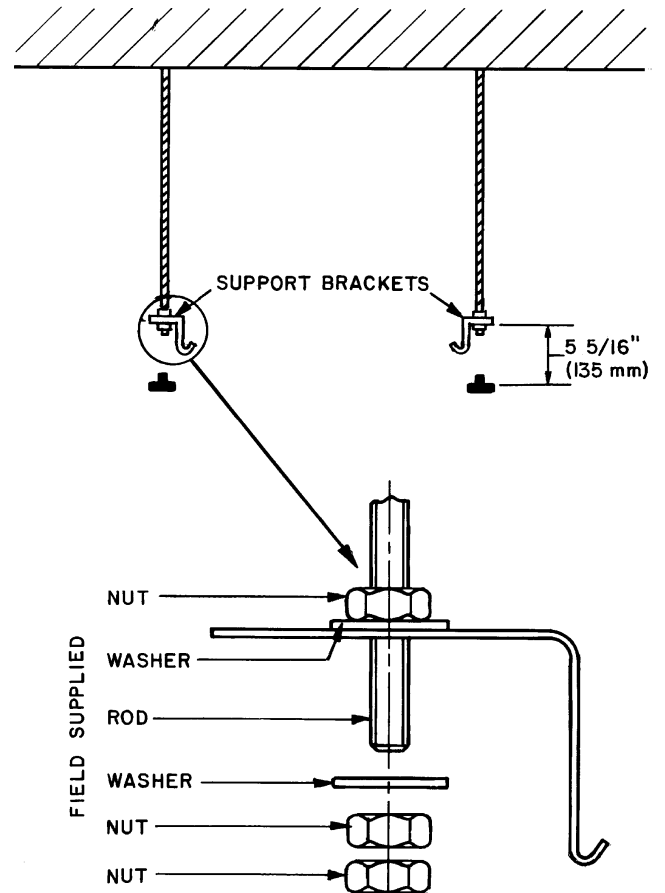

Fig. 5 — Support Bracket Installation
- c. Place support bracket on the threaded rod $5\frac{5}{16}$ -in. from false ceiling. Double-nut support brackets for safety. Install one nut and washer above the support bracket. Make sure extension rods do not protrude down through support bracket more than $\frac{3}{8}$ inch; otherwise, the unit cannot be easily attached to the bracket. Refer to Fig. 5.